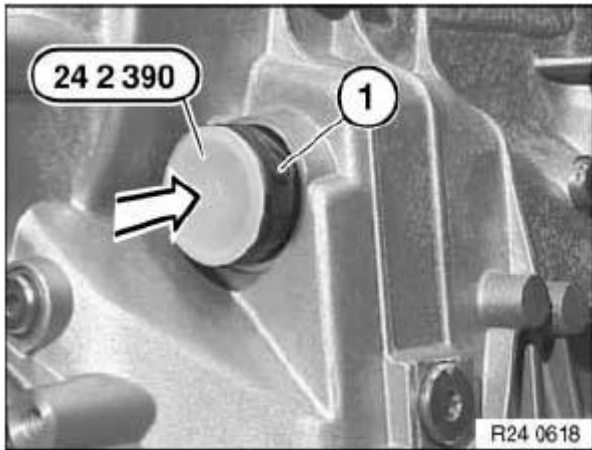

Fig. 66: Inserting Special Tool (24 2 390) In Sealing Sleeve
Insert special tool 24 2 390 in sealing sleeve (1). See **Fig. 66**.